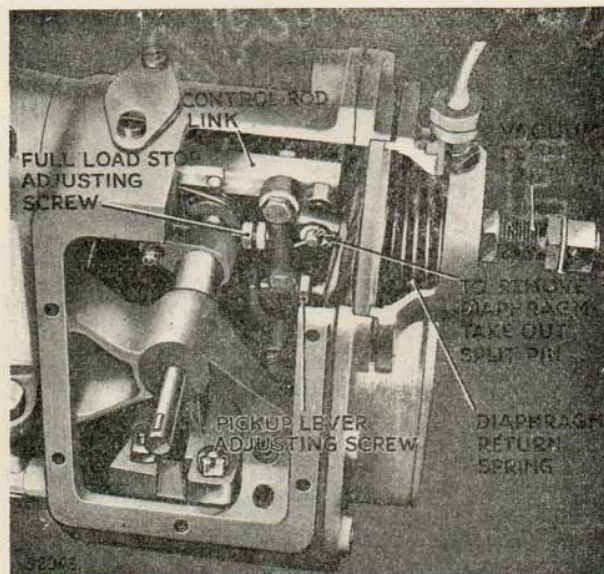

FIG. 38. GOVERNOR MECHANISM.
3. Remove the split pin (Fig.38), securing the diaphragm to the control rod pin. Draw the rod to the full-off position and unhook the diaphragm.